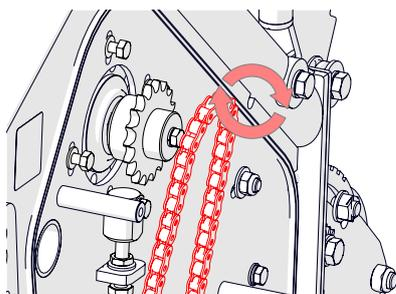

Fig. 11F - Replace the belt.
6. Replace the chain/belt, if required (Fig. 11F).